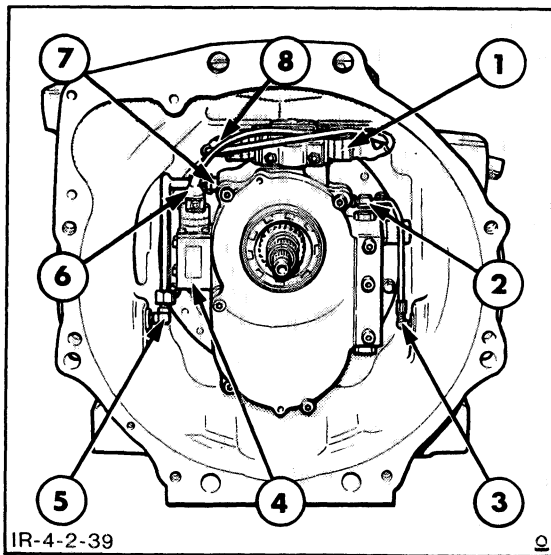

FIGURE 4-130
1. Disconnect the oil cooler return pipe and elbow at the transmission case, Figure 4-130. Disconnect the return pipe at the oil distributor housing and remove the pipe from the transmission case.
2. Disconnect the pressure test port feed pipe and elbow at the transmission case. Disconnect the feed pipe at the oil distributor housing and remove the pipe from the transmission case, Figure 4-130.